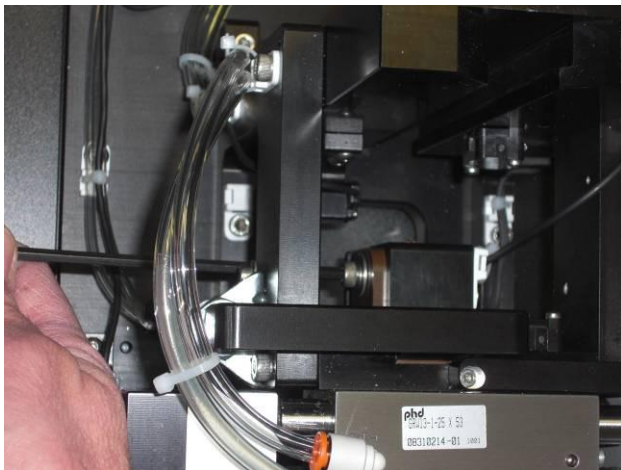

Figure 8 - Loosening the socket head cap screw
- To adjust this distance, loosen the one 5mm socket cap screw on the side of the gate and move the gate in or out depending on the stick out desired (figures 8 and 9 below). Re-tighten the screw before attempting to run the unit.